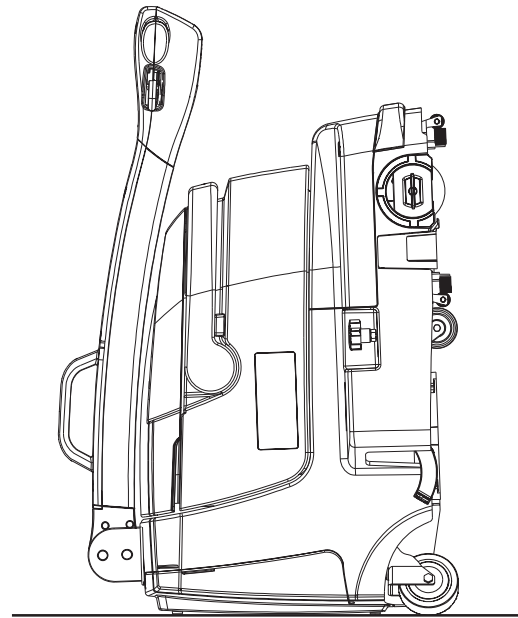

Figure 7
1. Stop and turn off the machine, then lift the brush/squeegee unit using the pedal (10).
2. Empty the tanks (13).
3. Park the machine as shown in the figure 7; for lowering the handlebar (1) press the lever (8).